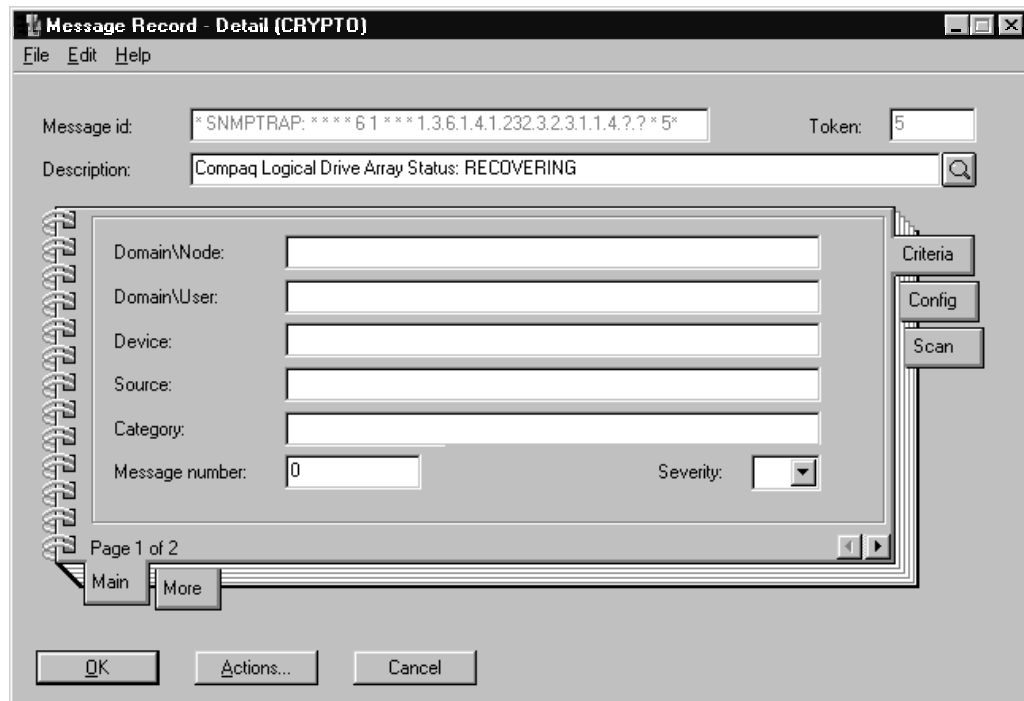

Figure 7-4. Message Record Detail Window
- Select this message and open the Message Record Detail Window by double clicking on the message. (See Figure 7-4.)